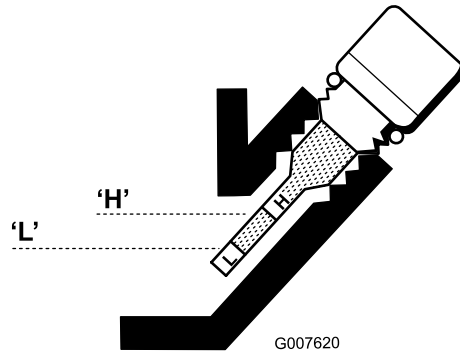

Figure 35
4. Wipe the oil-level gauge clean and insert it into the filler port. Do not screw the gauge into the port. Then remove it and check the level of the oil. If the level is low, add only enough oil to raise the level until it is between the H and L marks on the gauge (Figure 35). Check the level of the oil. Do not overfill.